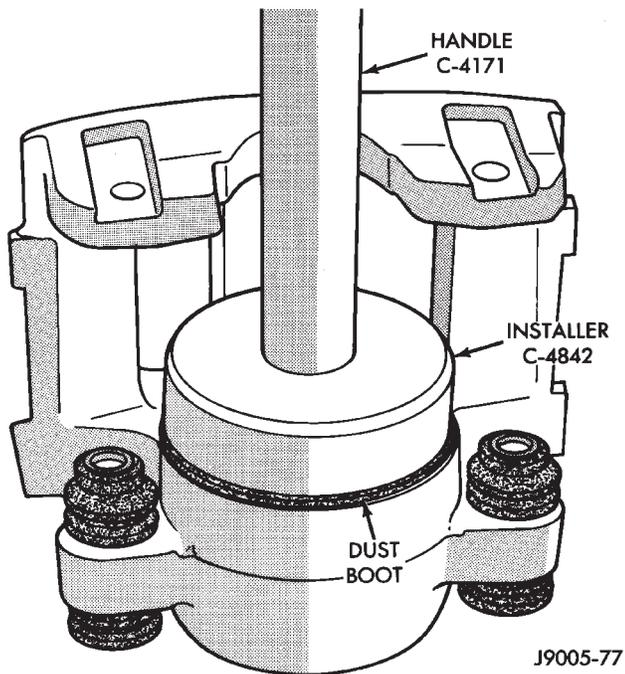

Fig. 74 Piston Dust Boot Installation
- (7) Press caliper piston to bottom of bore.
(8) Seat dust boot in caliper with Installer Tool C-4842 and Tool Handle C-4171 (Fig. 74).
(9) Replace caliper bleed screw if removed.